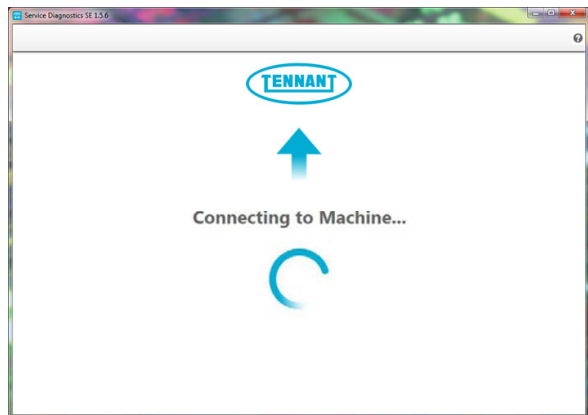

FIG. 19
5. The application software will connect to the machine. (Fig. 19)